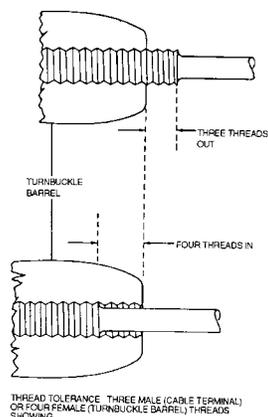

Figure 2-73. Turnbuckle Thread Limits
- a. **Turnbuckle Installation.** When installing cable system turnbuckles, screw both threaded terminals an equal distance into barrel. All terminals must be screwed into the barrel far enough that no more than three terminal threads or four barrel threads are exposed on initial installation of a cable assembly. These limits are shown in figure 2-73. The maximum of four exposed barrel threads applies only to the initial installation of the cable so that if the cable stretches, the turnbuckle can be adjusted to the desired cable tension, at which time more or less than four barrel threads may be exposed. AN series turnbuckles are lockwired as follows:
- (1) Adjust turnbuckle to its locking position.
- (2) Pass two locking wires through the center of the turnbuckle barrel.
- (3) Bend the ends of the wires 90 degrees toward the ends of the turnbuckle barrel.
- (4) Pass the wire ends through the hole in the turnbuckle eyes between the jaws of the turnbuckle fork.
- (5) Bend the wires back toward the center of the turnbuckle and wrap four times around the shank.
- (6) When a swaged terminal is being lockwired, one wire is passed through the hole provided for in the terminal, looped over the free end of the other wire and both ends wrapped four times around the shank.
- (7) MS series turnbuckles are locked with MS21256 locking clip. MS21251 turnbuckle bodies are slotted internally to accept the MS21256 locking clip.